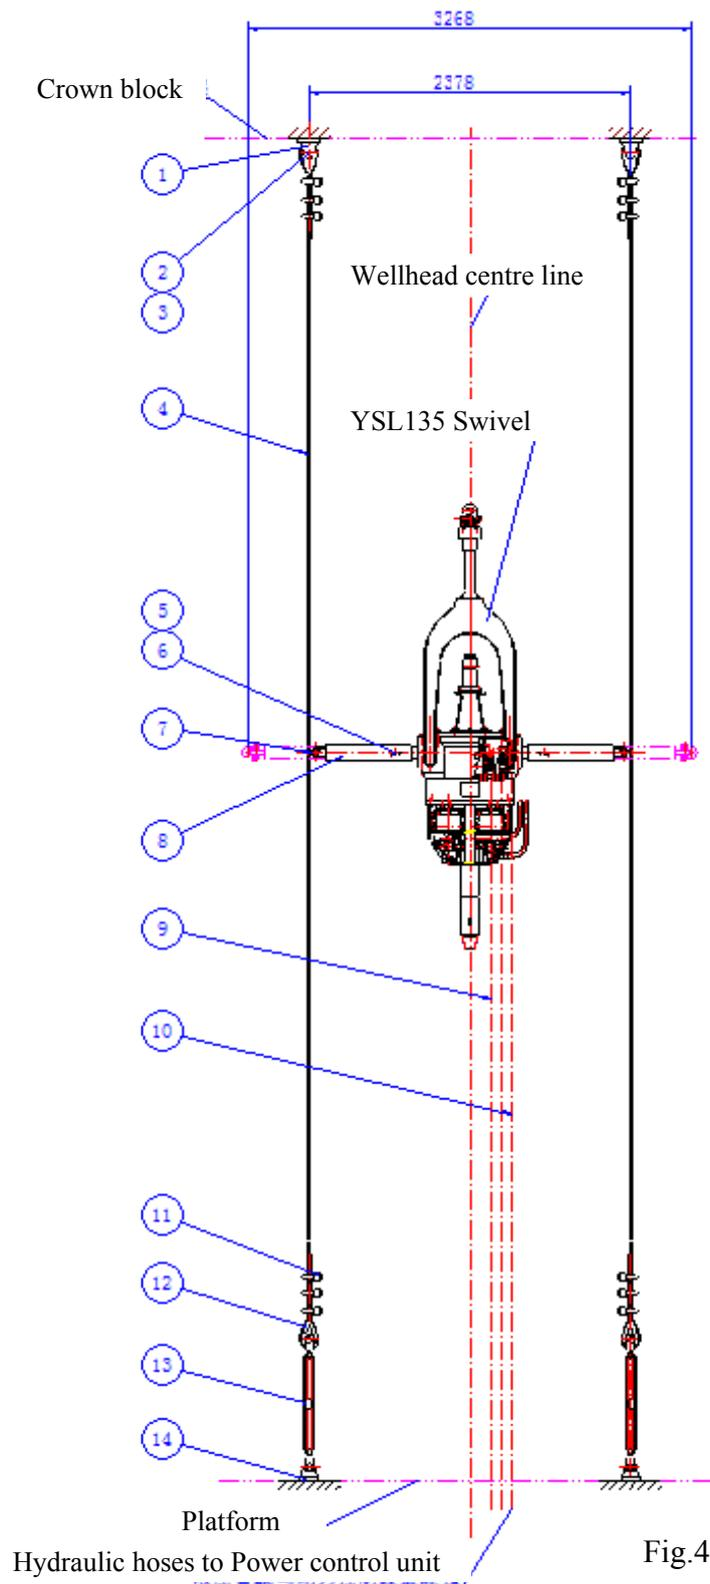

Fig.4: Mounting of YSL135 Swivel
6. Take out two anti-torque wire ropes and install them on the rig according to the above drawing, and tighten the ropes. The ropes go through the torque rein assembly on both sides of the swivel. Distance of rope mounting center is between 2378mm-3268mm. (See Fig.4) .